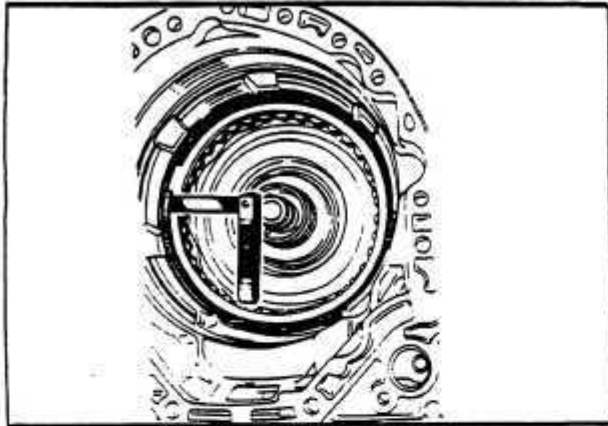

Fig. 50 BRAKE B-1 DISC PACK
13. Check the disc pack clearance using a feeler gauge. The clearance should be 1.05–2.85 mm (.014–.112 in.). *Fig. 50*